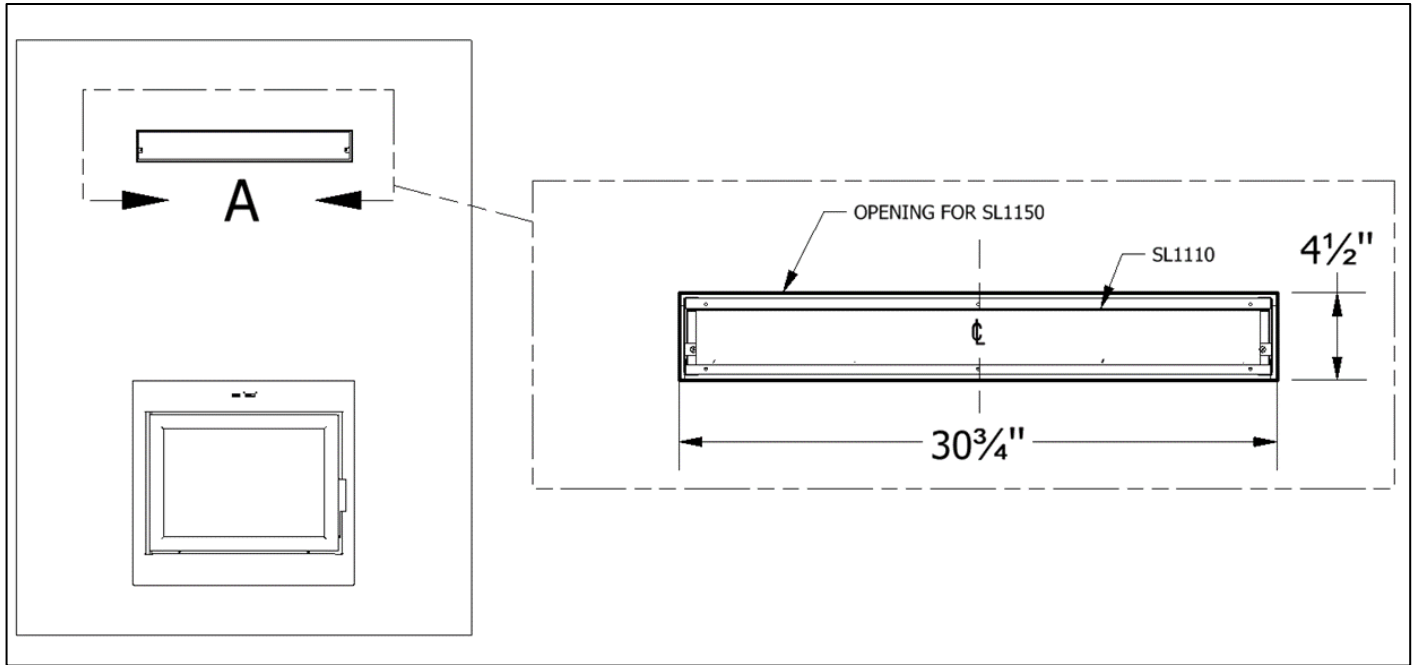

Figure 3-35: Opening for Air Outtake
- Once the chase has been built, locate the linear duct/louver adapter outlet and cut an opening on the chase finishing material of 30.75" (W) X 4.5" (H) centered with the outlet (Figure 3-35).